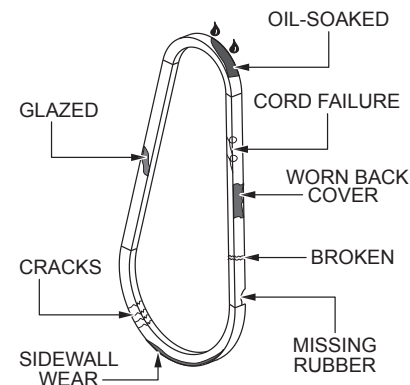

Figure 54. V-Belt Inspection
1. Inspect the V-belt (Figure 54) to determine if it is frayed, peeling, full of tiny cracks, has pieces of rubber missing, or is otherwise damaged.
2. Inspect the V-belt (Figure 54) to determine if it is oil-soaked or glazed (a hard, shiny appearance on the sides of the belt). Either of these conditions can cause overheating of the belt, which can weaken the belt and increase the possibility of it breaking.